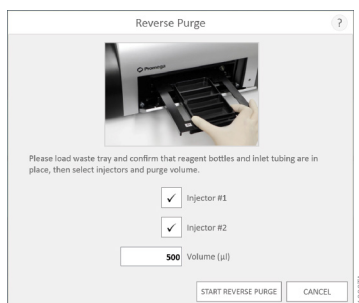

Figure 120. Injector Purge function.
2. Tap the **Start Reverse Purge** button (Figure 120).